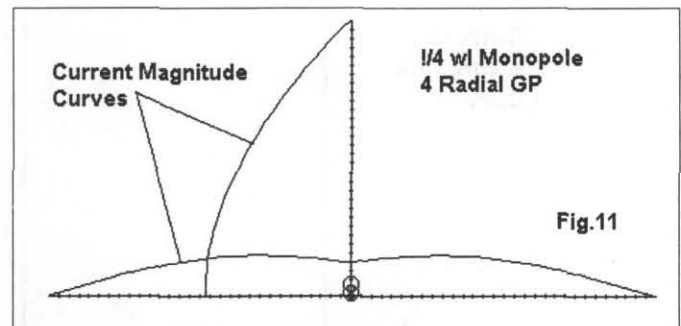

Fig. 11
The sketch in Fig. 11, shows the current magnitude along both the vertical and each of the (4) radials for a sample $1/4\lambda$ monopole with ground plane. The current in the radials at the junction is 0.25 of the source value of 1.0. Note the current peaks in the radials near the junction of elements.